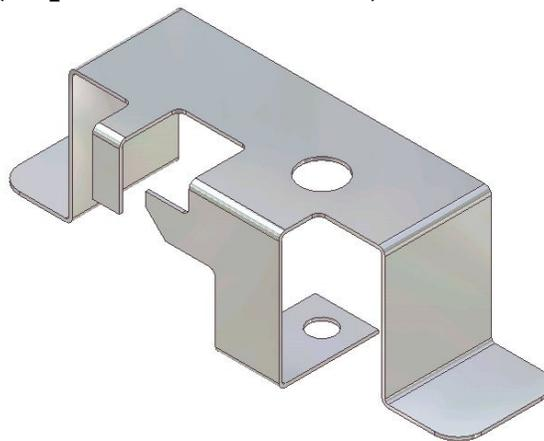
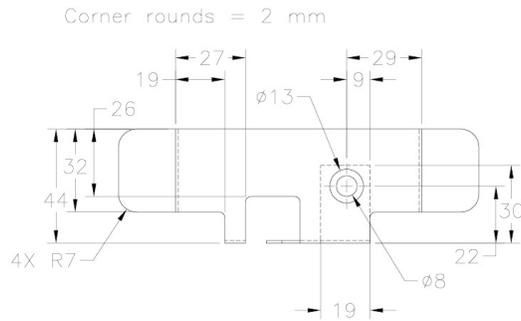
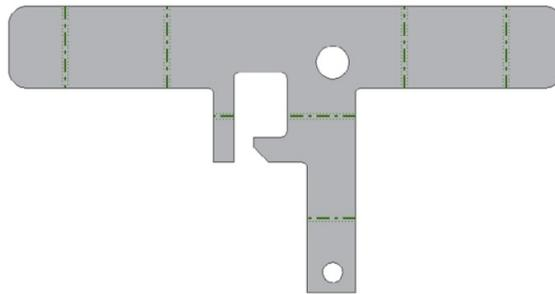

Figure 15-92a Sheet metal component of the Holder Clip
Figure 15-92b Top view of the Holder Clip
Figure 15-92c Flat pattern of the component
In this tutorial, you will create the sheet metal component of the Holder Clip shown in Figure 15-92a. Its views and dimensions are shown in Figures 15-92b and 15-92d. The thickness of the sheet is 1 mm. The flat pattern of the component is shown in Figure 15-92c. After creating the sheet metal component, create its flat pattern. **(Expected time: 45 min)**
1. Create all rounds by using the **Corner Round** tool, refer to Figures 15-92b and 15-92d for dimensions.
2. Create two holes by using the **Hole** tool from the **Modify** panel of the **Sheet Metal** tab, refer to Figures 15-92b and 15-92d for dimensions.